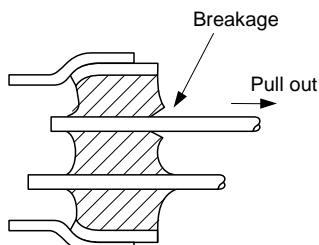

Figure 3
- (1) DO NOT pull the lead excessively if unbending a lead or removing a crystal unit. The excessive force may crack the glass and reduce the degree of vacuum. This may eventually result in deterioration of the characteristics and may also break the crystal chip see Figure 3.